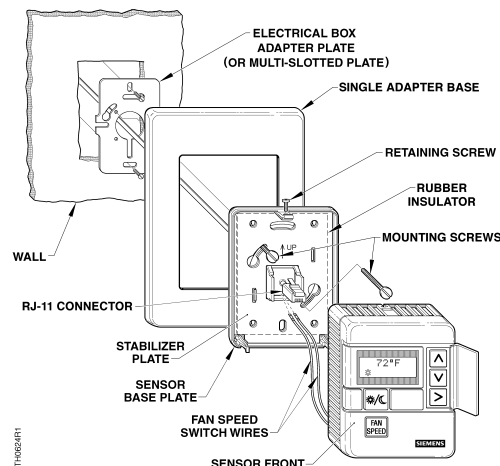

Figure 4. Electrical Box and Rough-in Mounting, Typical
| 192-506 | Electrical Box Adapter Plate Assembly Kit (pkg. 5) | Electrical boxes mounted flush with the wall and for gyms and similar environments requiring a guard. (Also see 544-782.) | Figure 4 |
| 544-782* | Single Adapter Base Mounting Kit | 2 x 4 boxes, all single sensor installations on walls with oversized holes, paint lines, etc., that need to be covered, and on exterior brick/cement-type walls. Kit includes Electrical Box Adapter Plate Assembly (192-495. Adapter base is 3-1/2 x 5 inches (8.8 x 12.7 cm). | Figure 4 |
| 544-783* | Double Adapter Base Mounting Kit | 4 x 6 boxes and all double sensor installations on walls with oversized holes, paint lines, etc., that need to be covered, and on exterior brick/cement-type walls. Kit includes two mounting plates (192-720). Adapter base is 5 x 7 inches (12.7 x 18 cm). | Figure 4 |
| 544-800 | Universal Adapter Kit | Retrofitting a previous horizontal installation to a vertical one, or when the screw spacing does not fit the electrical box adapter plate. Kit includes multi-slotted adapter plate. | Figure 4 |
- If you have a single-sensor electrical box, install the electrical box adapter plate. See Figure 4.
- If you use a universal adapter kit for a retrofit job, install the multi-slotted plate in place of the electrical box adapter plate. See Figure 4.